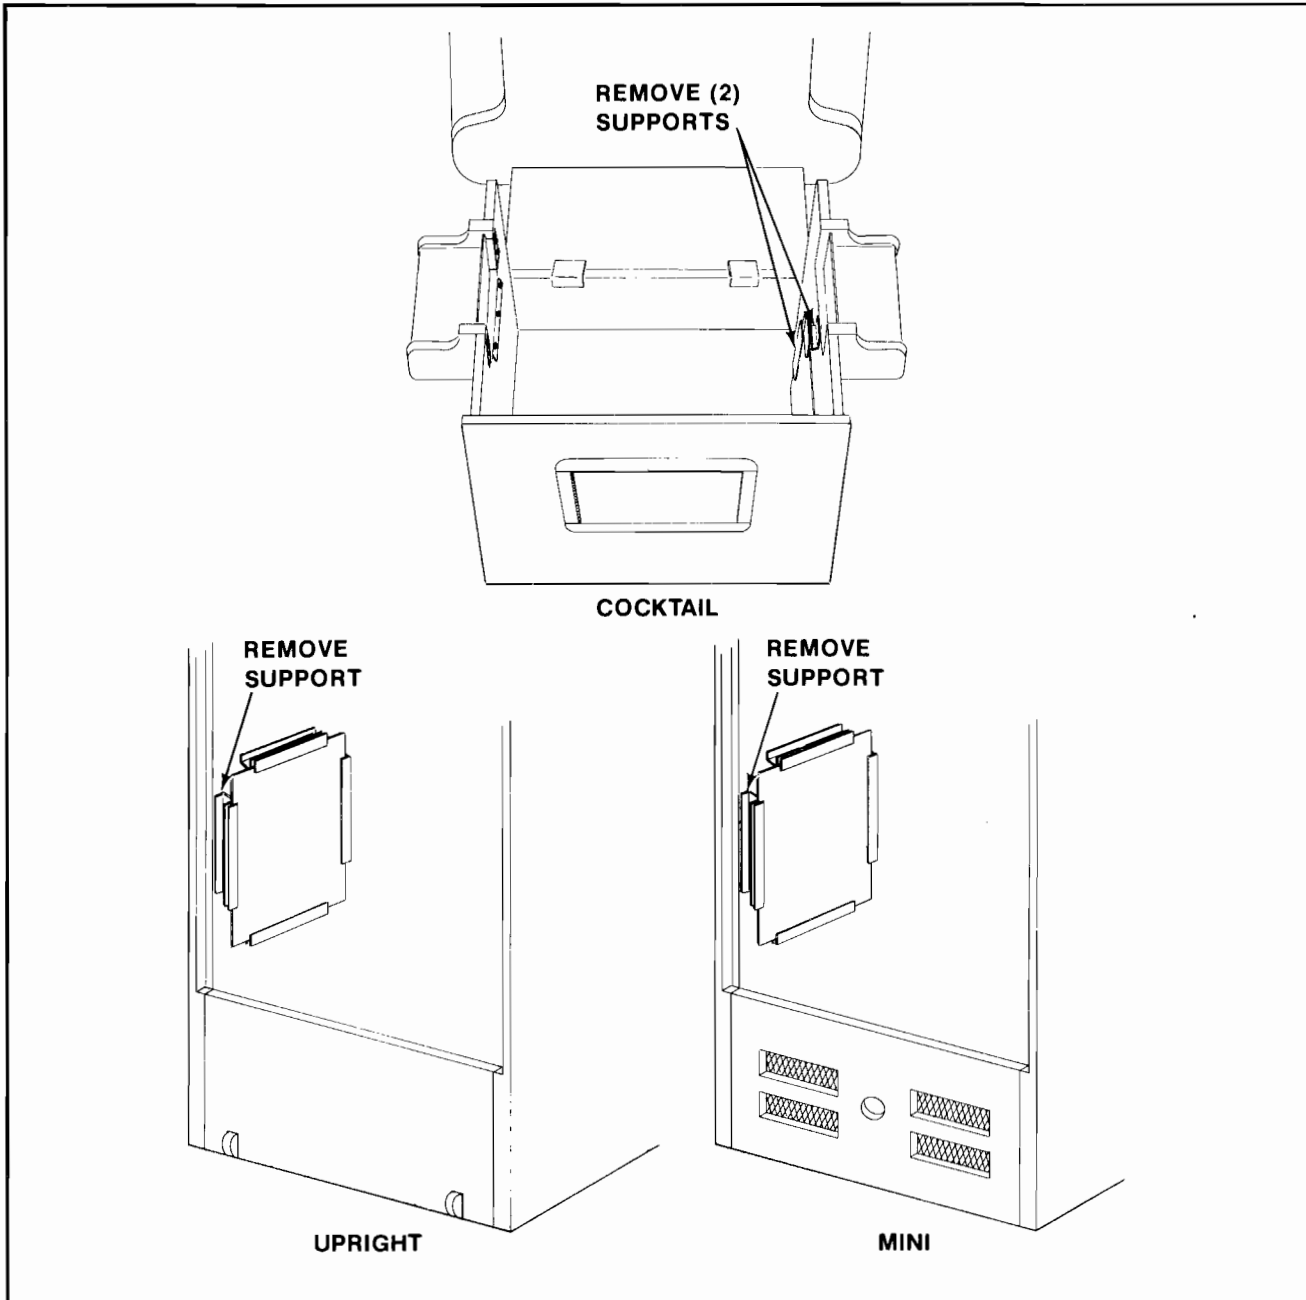

Figure 4-12 Removing P.C.B.'s
1. UPRIGHT MODEL: See Figure 4-12.
- Disconnect the linear power supply board from all its cabling, remove the P.C.B. supports indicated in Figure 4-12, and slide the linear power supply board out the back of the cabinet.
**2. MINI MODEL:** See Figure 4-12.
**3. COCKTAIL TABLE MODEL:** See Figure 4-12.
- To remove the linear power supply board. See Figure 4-12.